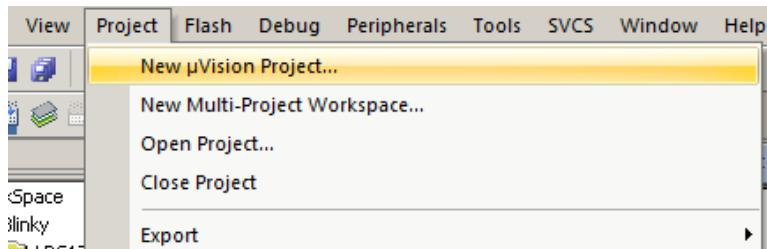

Figure 8.2: Keil IDE: Create a New Project
- Click Project → New uVision Project (See Figure 8.2).